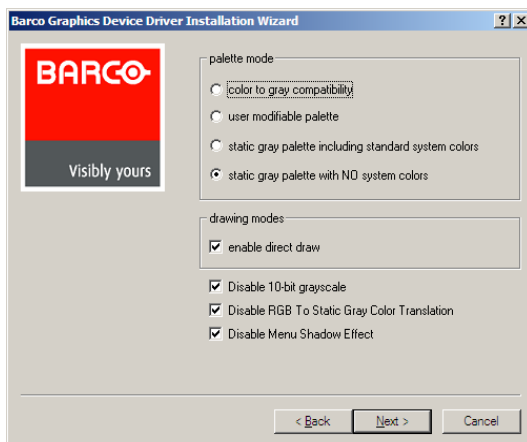

Figure 33:
**Note:** When the page shown in figure 33 appears you may either click **Next** to accept the default settings or if you know the settings required for your viewing application, you may select them now and then click **Next**. You may change these settings later by accessing the Barco Driver tab within the *Windows Display Control Panel*.